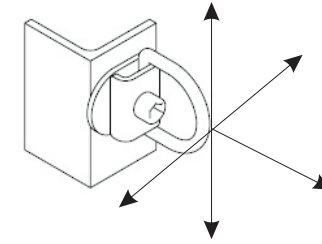

Fig.3. Directions load device.
7. Force transmitted to the structure is less than 12kN. For possible force directions see figure 3.